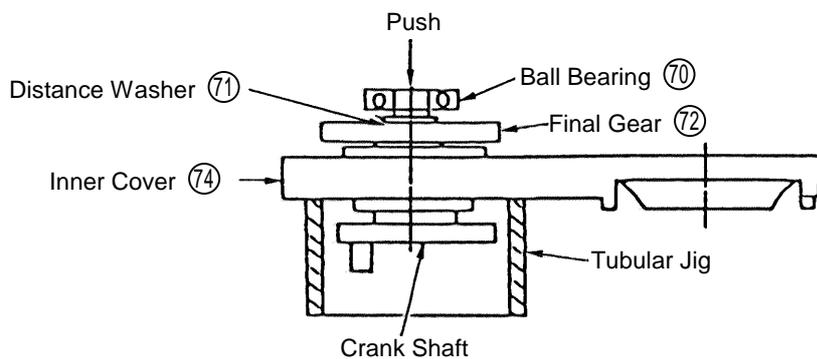

Fig. 9
(2) Disassembly of the Crank Shaft (94) Section:
As illustrated in Fig. 9, support the lower surface of the Inner Cover (74) with an appropriate tubular jig (100 mm inner dia.), apply an appropriate steel rod (maximum diameter of 19 mm) to the end surface of the Crank Shaft (94), and push it downward with an arbor press. The 6204 VVCM Ball Bearing (70), Distance Washer (71), Final Gear (72), 4 x 4 x 15 Feather Keys (93), and Crank Shaft (94) can then be removed from the Inner Cover (74).